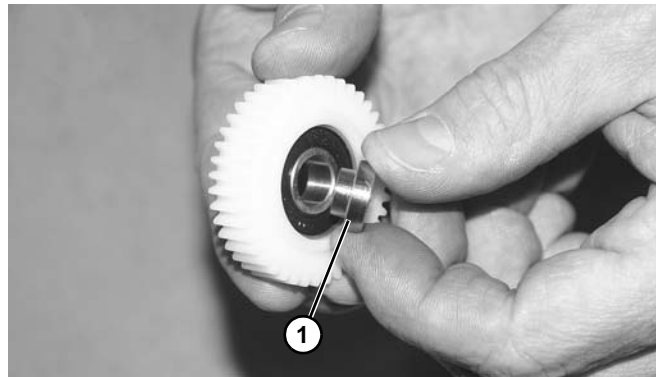

Figure 73
5. Remove spacer (Figure 73, item 1) from idler gear.